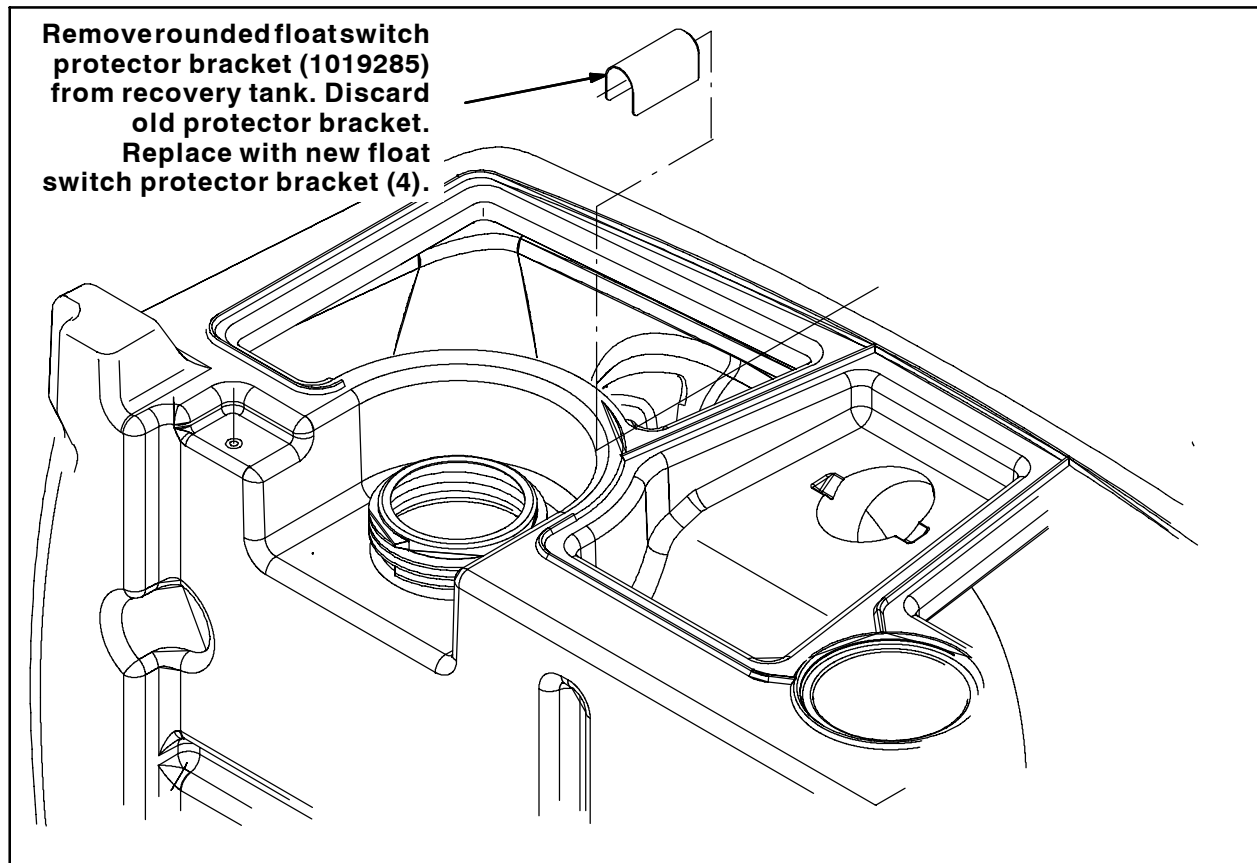

FIG. 5
2. Disconnect the wires from the float switch and remove the float switch and rounded float switch protector bracket from the recovery tank. Set the hardware aside. Discard the float switch protector bracket. Refer to Fig. 5.